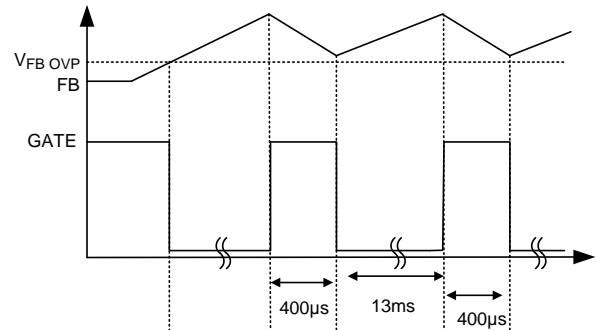

Figure 1. Auto-Restart with FB OVP
The RT7315A equips with both protection features as follows. (1) OTP: As OTP occurs, the gate voltage will be pulled low so that the power switch will be turned off until the temperature cools down by 50°C (typ.) (2) LED Short Circuit Protection and LED Hot Plug Protection by FB OVP and CS current limit: As the FB pin voltage exceeds V_{FB_OVP} (1.7V, typ.), CS voltage is limited at V_{CL} (100mV, typ.) to achieve current limit the gate voltage will be pulled low so that the power switch will be turned off. To achieve auto-restart, the switch will be turned off 13ms (typ.) and then turned on 400μs (typ.), as shown in Figure. 1.